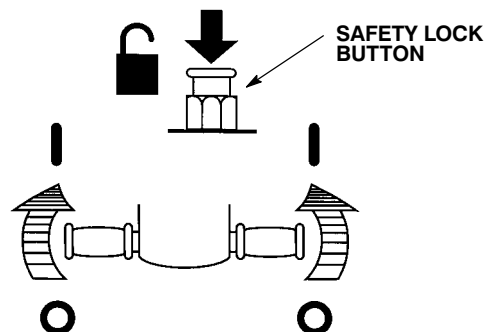

FIG. 5
2. Start machine by pressing safety lock button and turning twist grips forward. Release thumb from safety lock button once machine starts (Figure 5).